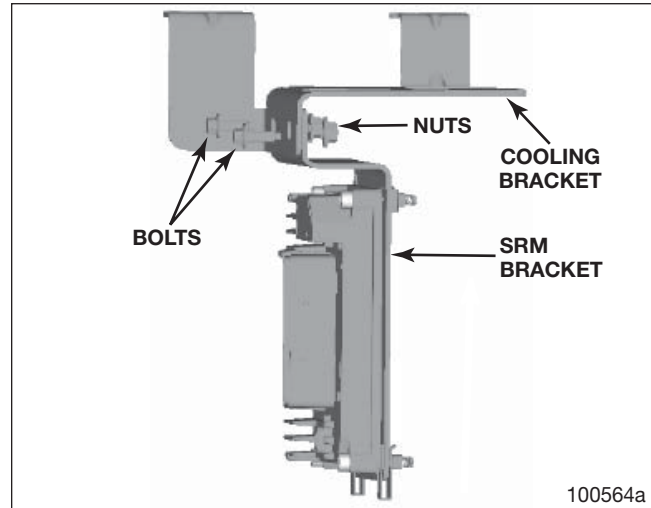

Figure 99 – SRM Bracketry
3. Install two M6x16 flange head bolts to attach the upper part of the SRM bracket to the cooling reservoir bracketry. Torque to 8-12 Nm. Figure 99.